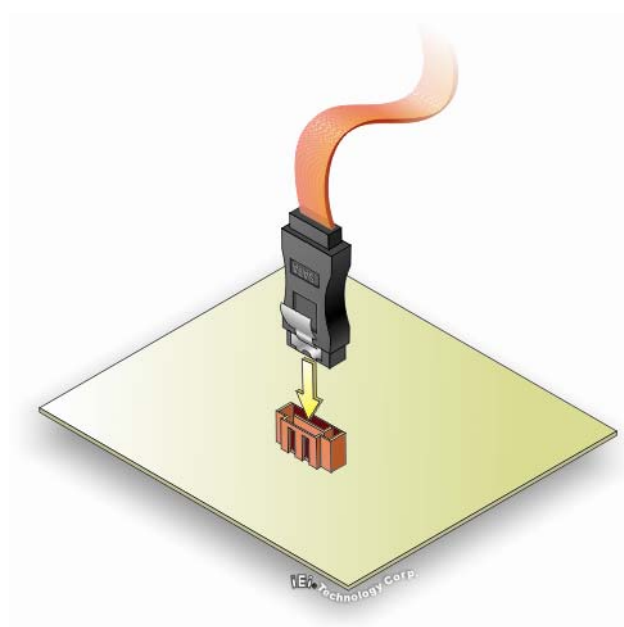

Figure 4-14: SATA Drive Cable Connection
Step 2: Insert the cable connector. Insert the cable connector into the on-board SATA drive connector until it clips into place. See **Figure 4-14**.